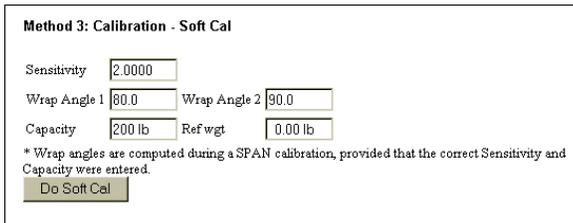

FIG. 2-30 CALIBRATION PAGE/SOFT CALIBRATION
Step 2. Click on Calibration. The Calibration page appears. Scroll down to Method 3: Calibration - Soft Cal (See Fig. 2-30)